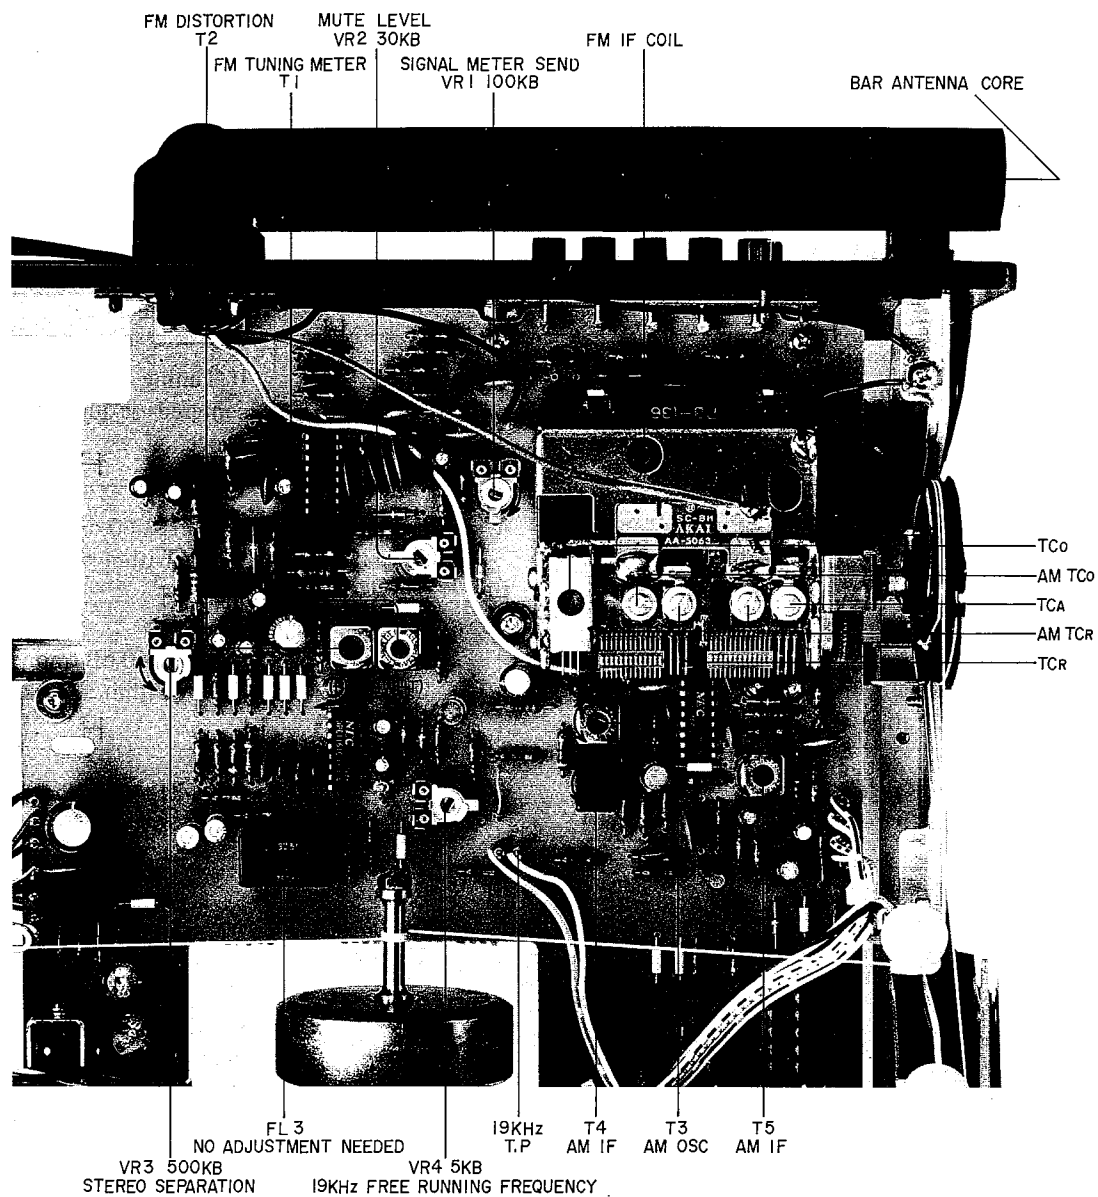

Fig. 19 Tuner P.C Board T3-2501A
1. FM TUNER SECTION ADJUSTMENT (Refer to Figs. 19, 20)
2. AM TUNER SECTION ADJUSTMENT (Refer to Fig. 19)